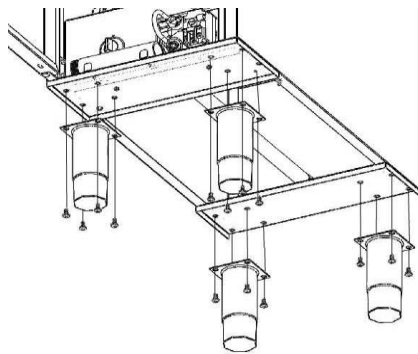

Fig. 1
1. Install the 4 leveling leg/caster through the bottom of the fryer, using a Phillips screwdriver, assemble each leg/caster with 4 screws A (Fig. 1). Locking-type casters must be installed in the front.